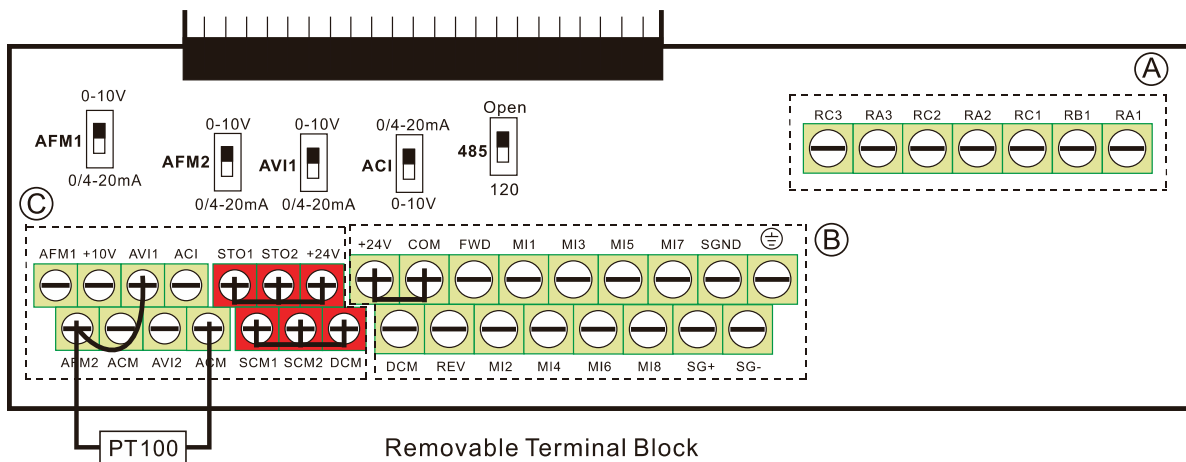

Figure 1
1. Switch AFM2 to 0–20 mA on the I/O control terminal block. (Refer to Figure 1, PT100 wiring diagram)
2. Wiring (Refer to Figure 1, PT100 wiring diagram):